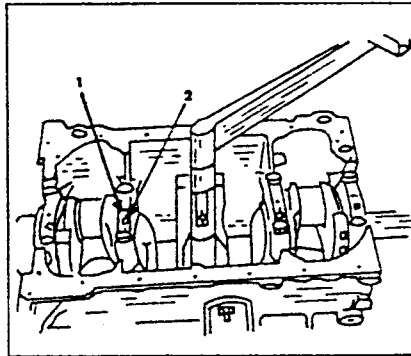

Fig. 1.12. — Removal of the crankshaft main bearing caps. The bearing number (1) and an arrow (2) are cast into each bearing cap.
- Slacken the crankshaft main bearing cap bolts, commencing at the outsides and working towards the centre. Remove the caps one after the other, using a rubber mallet if they stick to the block. The caps are numbered and each cap has an arrow, facing towards the front of the engine (Fig. 1.12). The bearing shells must be kept with the caps.